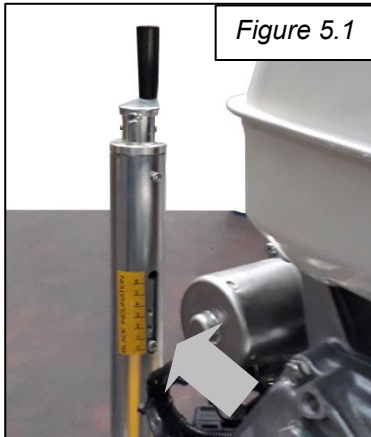

Figure 5.1
- Turn the blade-lifting lever (as shown in fig. 5.1) clockwise up to give an inclination to blades of about 1 cm. to perform the first troweling;